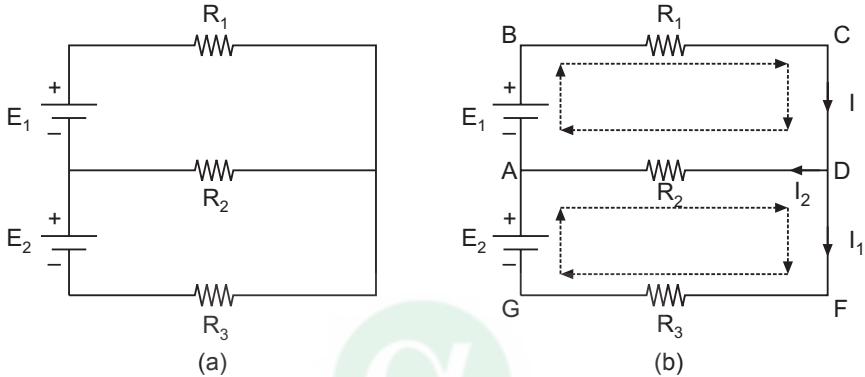

Fig. 1.26 Circuit diagrams
Illustrative Example: Apply KVL to the circuit shown in Fig. 1.26 (a) and write the equations.
- Step 1:** The first circuit is named as ABCDA taking A at the -ve terminal of EMF E_1 and the second circuit is named as GADFG taking G at the -ve terminal of EMF E_2 as shown in Fig. 1.26 (b).